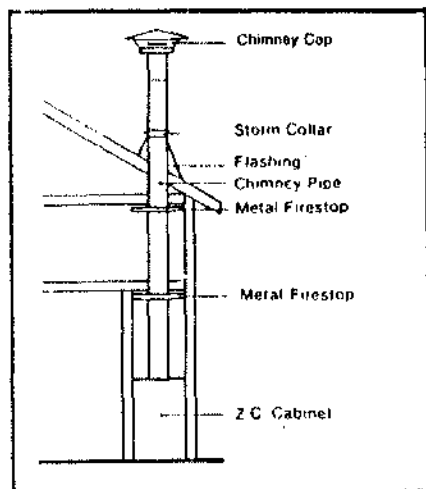
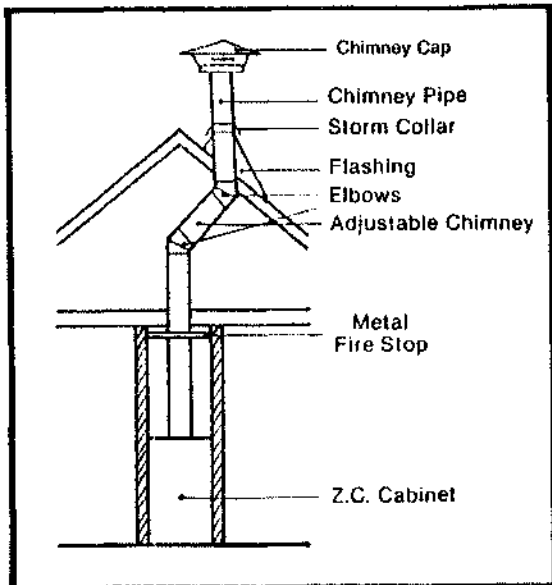

FIGURE 1 Through Ceiling & Normal Pitch Roof
FIGURE 3 OFFSET TO CLEAR OBSTRUCTION
- a. Straight up through ceiling: (See Figures 1 and 2). This is a simple installation normally used when installing a BUCKMATE inside an existing room, and in some cases, in new construction. Refer to Figure 3 if an offset to clear an obstruction is needed.
Except as noted, the BUCKMATE can be installed almost anywhere you desire. There are, however, a few clearance and framing restrictions that must be followed. See figure 1 and 2 to make sure that these clearance restrictions are met. It is much wiser to place your BUCKMATE correctly at the start of the installation than to be forced to relocate it after much of the work is done.
- Lay out the location on the floor and construct base (see Figure 1).
Base for BUCKMATE must be level with or slightly higher than finished hearth height - dimension (A) Figure 1. Front of BUCKMATE cabinet must be recessed 2 1/2" from finished wall.
FIGURE 1-B: Safety shields for brick or rock hearth (Note: Cut vertical shield to fit installation height as needed. Use 26 Ga. Minimum metal being sure to cover any combustibles on the base.)
2. Set BUCKMATE unit in place and attach safety shield to unit as shown in Figure 1-A and 1-B. You must place a non-combustible material 3/8" thick millboard or equivalent .084K factor or 2" of masonry (brick or rock) over this area as a minimum.
2. Set BUCKMATE unit in place and attach safety shield to unit as shown in Figure 1-A and 1-B. You must place a non-combustible material 3/4" thick millboard or equivalent K Factor = .084/BTU/F² H° F inches minimum. Note: 3/8" thick millboard may be used when installing the ZC-3-01 and 27000-B.